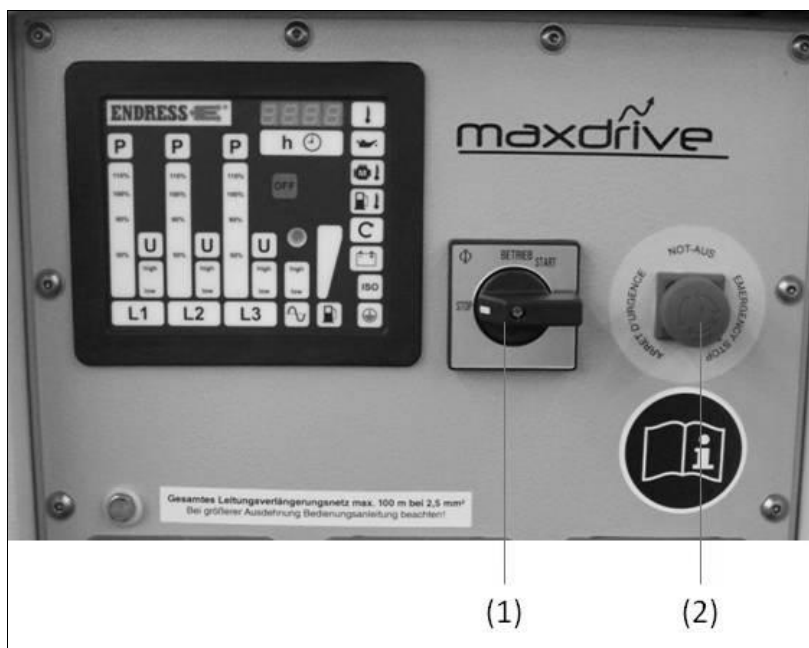

Fig. 4-2: Standard design of operating panel
3. Turn the START-STOP switch (Fig. 4-2-(2)) completely to the right into the position "START" until the engine starts and then release.
3. Set the START-STOP switch (*Fig. 4-2-(1)*) to position "1"
1. Set the START-STOP switch (*Fig. 4-2-(1)*) to position "1"
3. Set the START-STOP switch (*Fig. 4-2-(1)*) to position "0"